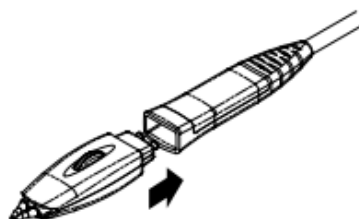

Figure 1-6 To Connect the Probe Head to the Preamp of the Active Probe
1. Connect the probe head to the preamp of the active probe, as shown in Figure 1-6.